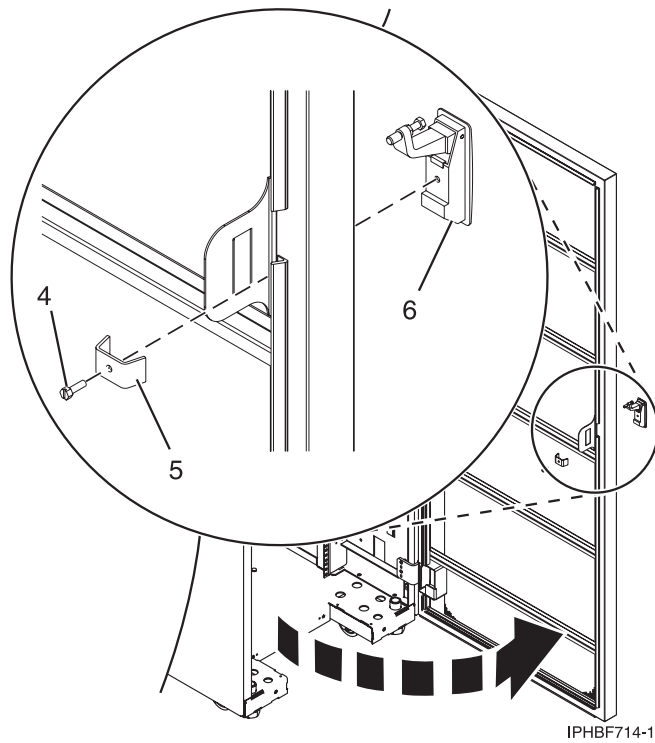

Figure 104. Removing the existing door latch
- b. On the inside of the door, remove the screw (4) in Figure 104, that secures the lock to the rack door.
- c. Remove the bracket (5).
- d. From the outside of the door, remove the door latch (6).
- a. Insert the keyed rack lock into the latch slot on the front of the door (6) in Figure 104.
- b. Secure the lock by attaching the lock bracket (5) with the screw (4), on the inside of the door.